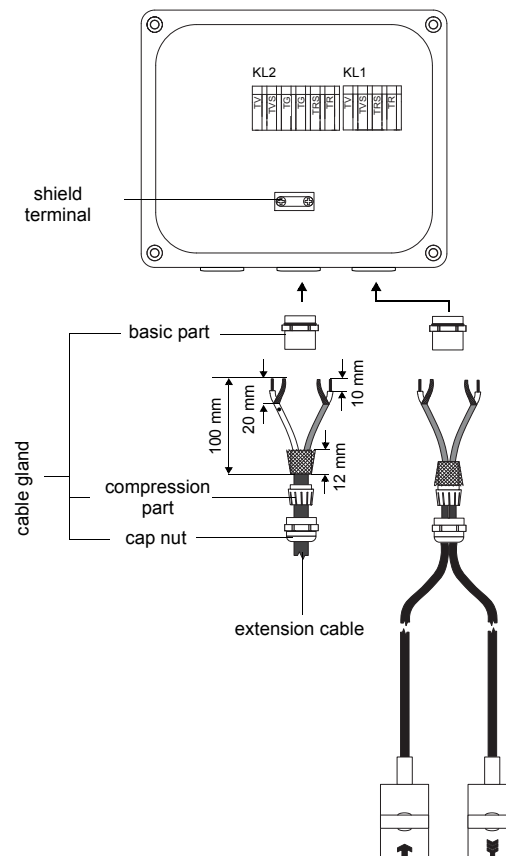

Fig. 5.8: Connection to junction box JBT3
- Remove the blind plug from the junction box for the connection of the extension cable (see Fig. 5.8).
- Fix the cable gland by screwing the cap nut on the basic part (see Fig. 5.8).
- Remove the blind plug from the junction box for the connection of the transducer cable (see Fig. 5.8).